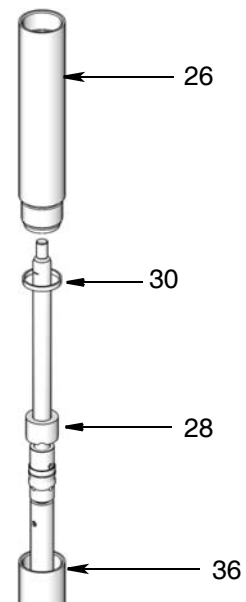

Fig. 5
- Tighten a strap wrench on the spacer cylinder (36) and use it to prevent this part from moving. Secure a strap wrench around the cylinder (26) and use it to turn the cylinder to loosen and remove it from the pump assembly. (Fig. 5). Remove the intake seal (28).